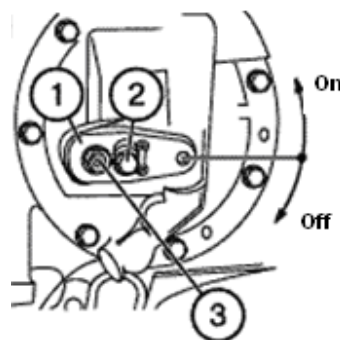

Figure 4.4
- k) shift lever for control of gear box (GB) oil pump to switched from position (Figure 4.4);